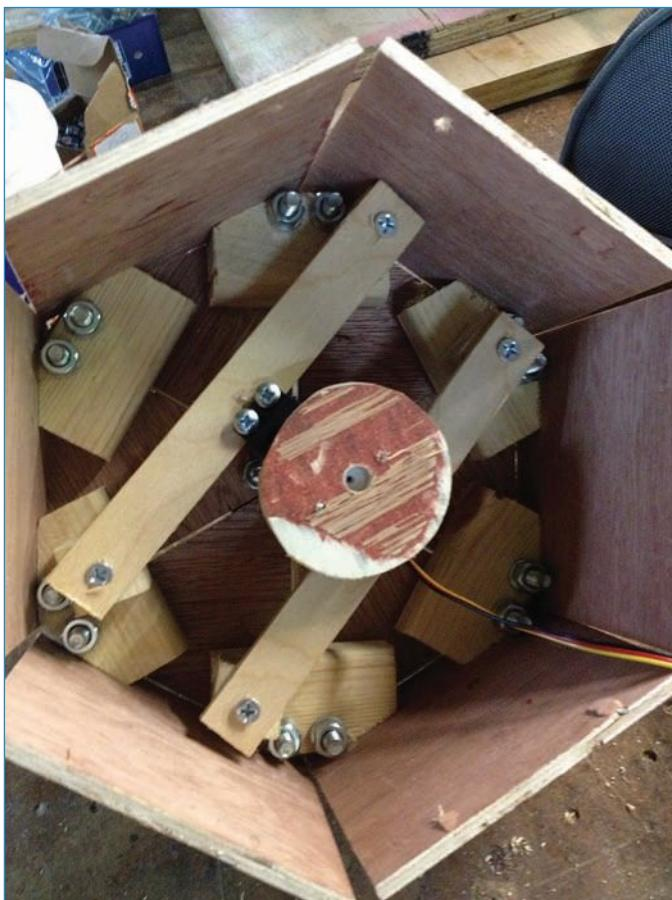

FIGURE 11.17 Looking into the enclosure from the bottom, you see the servo mounted in the center.
10. Install the motor in the top panel, using strips of wood cut from the 5mm plywood, with 1" spacer blocks cut from the pine. Use the #8 × 1/2" screws to attach the servo to the strips, then use the #6 × 2" screws to attach the strips to the support blocks. Really, the only considerations are that the strips of wood are high enough so that the servo doesn't bump into the top, and that the servo's hub is aligned with the dowel-hole in the bottom of the enclosure. You can see how it should look in Figure 11.17.